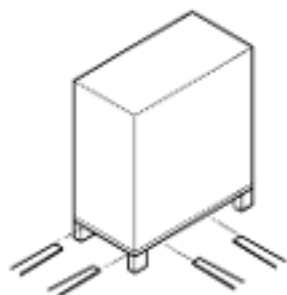

Fig. 1: Transport with forklift truck
1. **Fig. 1:** Cut and remove the strapping ①.
2. Lift the cover of the cardboard box ② and remove it.
3. Unscrew the bayonet locks ③ from the box. Turn them counterclockwise to perform this task.
4. Remove the box ④.